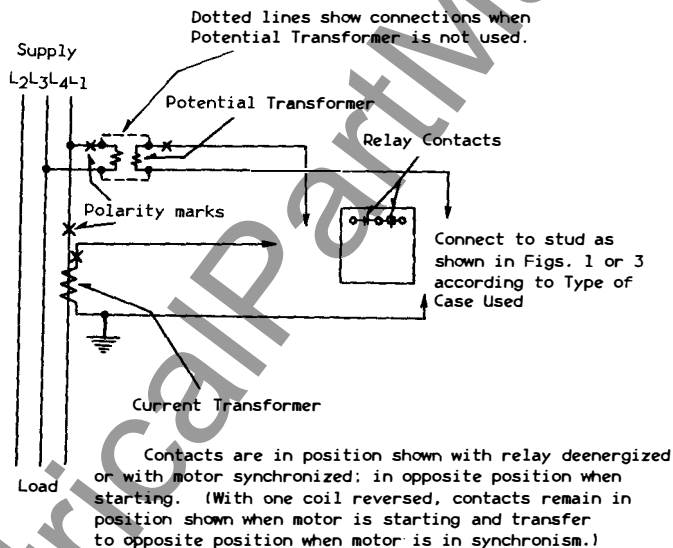

FIG. 6 - WIRING DIAGRAM FOR 3 - PHASE 3 - WIRE CIRCUITS
- (1) Add jumpers or arrange connections so that relay operation will not affect operation of equipment.
- (2) Connect as shown on diagram (Figures 6 - 8.)
- (3) With the field rheostat adjusted for normal excitation, make a trial start. With the usual connections properly made, the relay contacts, front view, close in the left-hand position when starting, then re-transfer back to the de-energized position after the machine has pulled into synchronism.
- (4) If the contacts do not transfer when starting or when machine is synchronized, the phase rotation is wrong. (With such a connection, a low leading power factor will cause the contacts to transfer.)